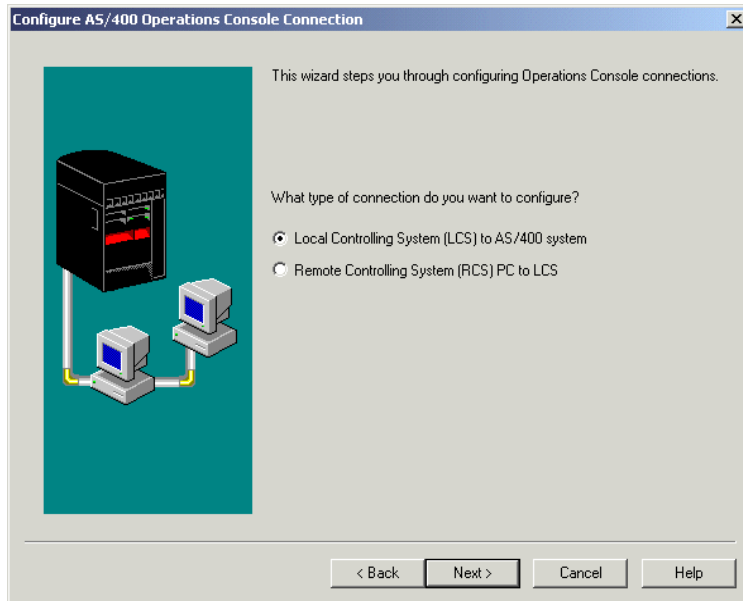

Figure 7-33 Configure AS/400 Operations Console Connection display (secondary)
3. The next display (Figure 7-33) asks you to specify the type of connection that you want to configure. Click **Local Controlling System (LCS) to AS/400 system**. Then, click **Next**.